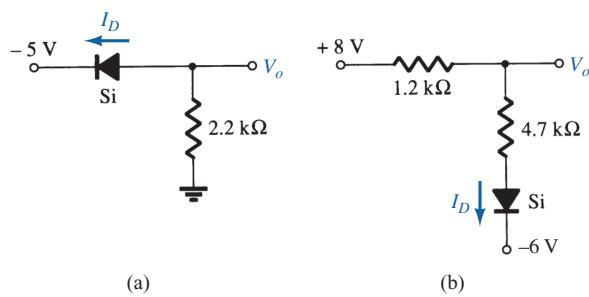

FIG. 156
6. Determine V_o and I_D for the networks of Fig. 156.